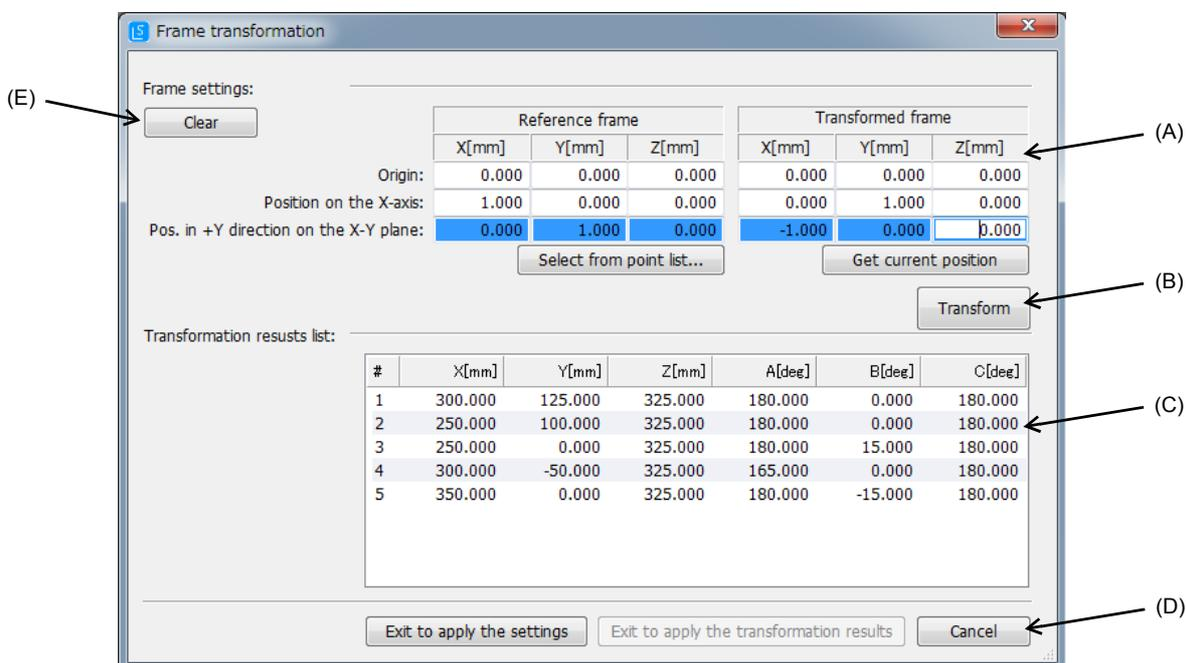

Fig.7-106:Frame transformation screen
In the (A) section of Fig. 7-106, set the X, Y and Z axis coordinate values for the three positions (origin, position on X axis, position in +Y direction on X-Y plane) that define the reference coordinate system and transformed reference coordinate system.
When the [Transform] button in Fig. 7-106 (B) is clicked after setting the coordinate system, frame transformation is applied on all path point data. The results are shown in Fig. 7-106 (C) "Transformation results list". When frame transformation is executed, the [Exit to apply the transformation results] button in Fig. 7-106 (D) is enabled.
When the Fig. 7-106 (D) [Exit to apply the settings] button is clicked after setting the coordinate system, the position data that defines the coordinate system will be saved in the Spline File Edit screen, and the Frame transformation screen will close.
Click the Fig. 7-106 (E) [Clear] button to clear the coordinate system settings saved in the Spline File Edit screen. A confirmation dialog will appear when this button is clicked.